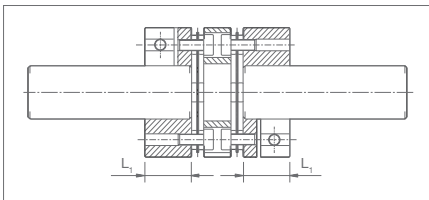

Figure 2
3. Please also ensure that both shaft shanks are inserted fully into hub section L1 (Figure 2 - please refer to the catalogue specifications for details).